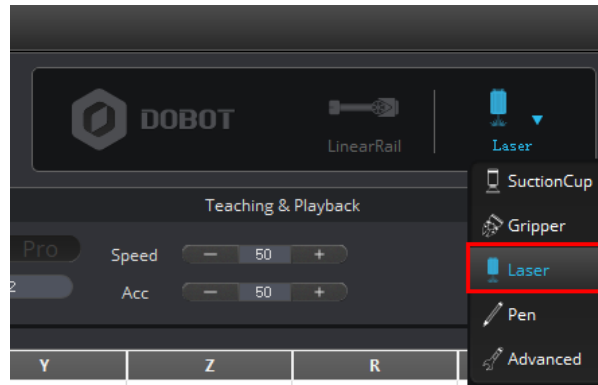

Figure 5.57 Choose Laser as the end-effector
Step 4 Choose **Laser** as the end-effector, as shown in Figure 5.57.